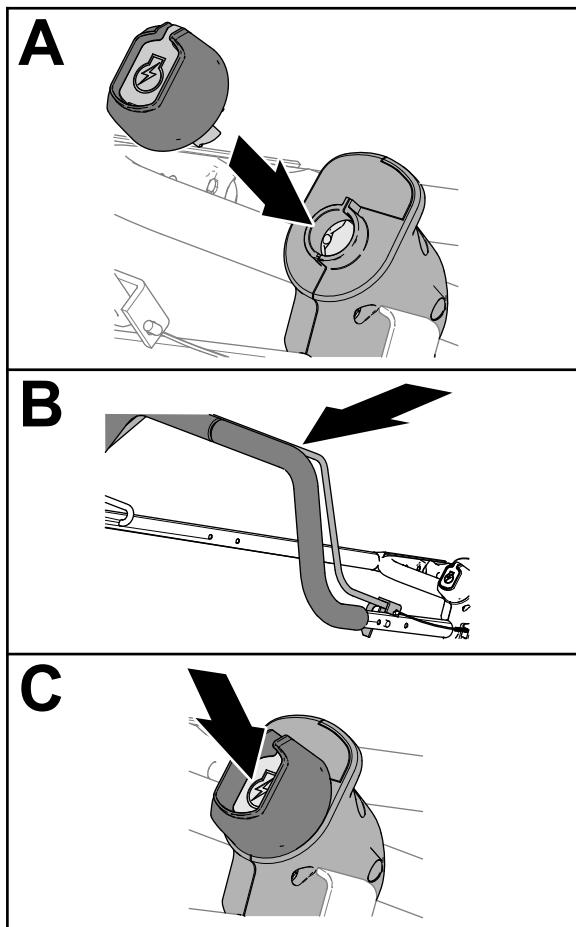

Figure 16
1. Insert the electric-start key into the electric-start switch (Figure 16).